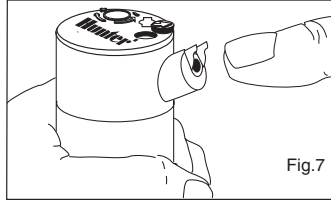

Fig. 7
3. Slip the desired nozzle into the nozzle socket (Fig. 7). Note that the socket is angled up 25°. The "ears" should be adjusted so that the nozzle range screw threads directly down between them. Then tighten the nozzle range screw. The raised bump with an arrow on the rubber cover will always indicate the location of the nozzle and direction of water flow when the sprinkler is retracted.